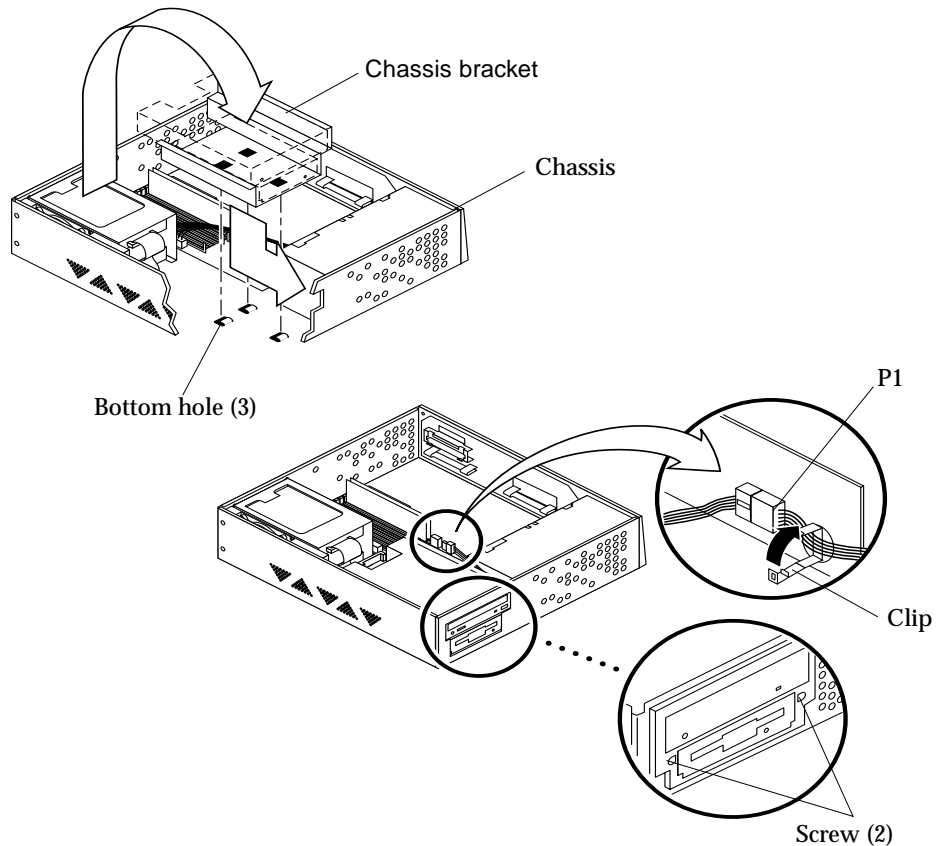

FIGURE 9-8 Positioning the Chassis Bracket
2. Position the chassis bracket in the chassis and slide the chassis bracket toward the opening in the chassis side (FIGURE 9-8).